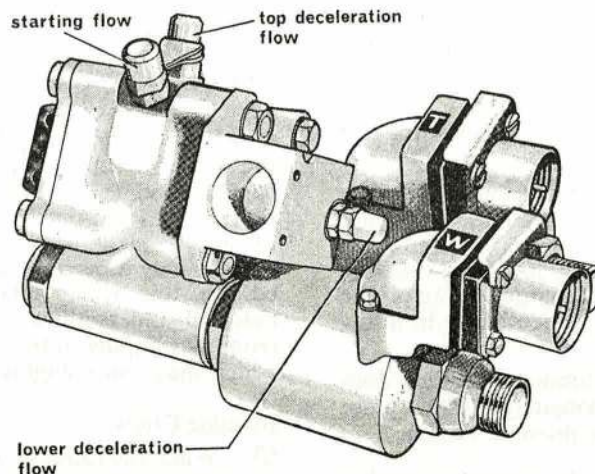

Fig. 9. SPILL CONTROL UNIT ADJUSTMENTS
51. The following adjustments can be made with the spill control unit fitted on the engine. After each adjustment a test run must be made and the effect observed until the required condition is obtained. The positions of the adjusting screws are shown on Fig. 9.